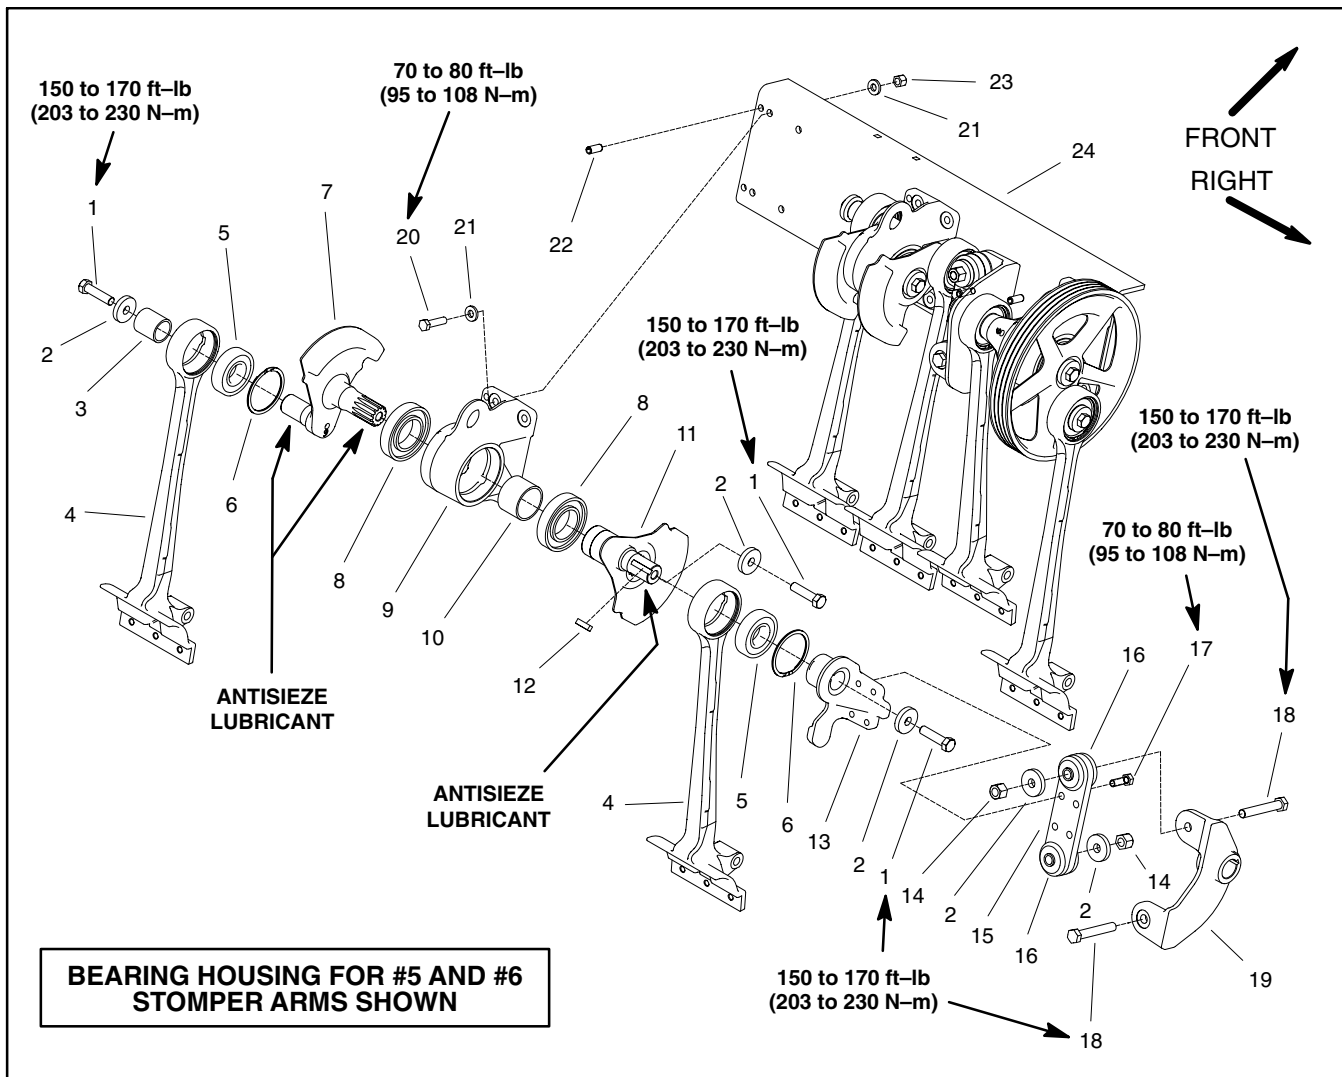

Figure 8
Removal (Fig. 8)
Installation (Fig. 8)
8. Once all components have been installed, fully tighten fasteners in the following order. Tighten fasteners to the torque specifications identified in Figures 8 and 10: